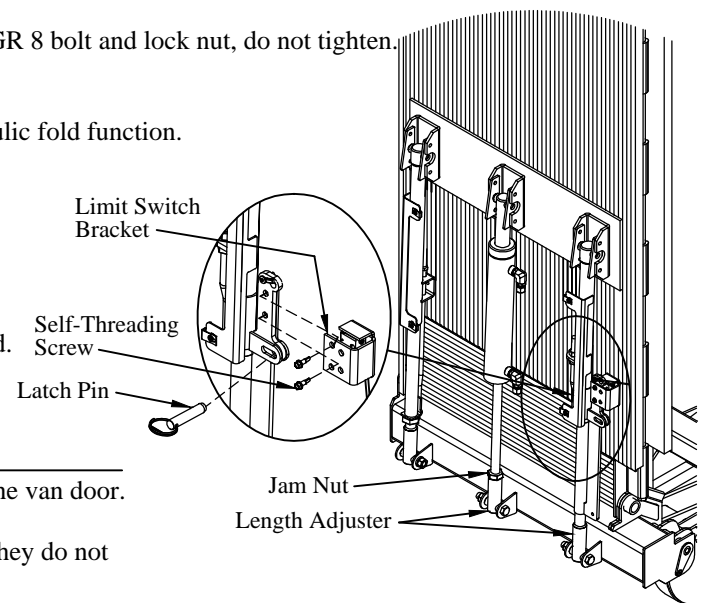

Figure 15: Platform latch and adjustment.
Make sure that the limit switch is not in the pushed position (Figure 15).
- 3. Support** the platform to keep it from falling or hitting the van in the next step (Figure 15).